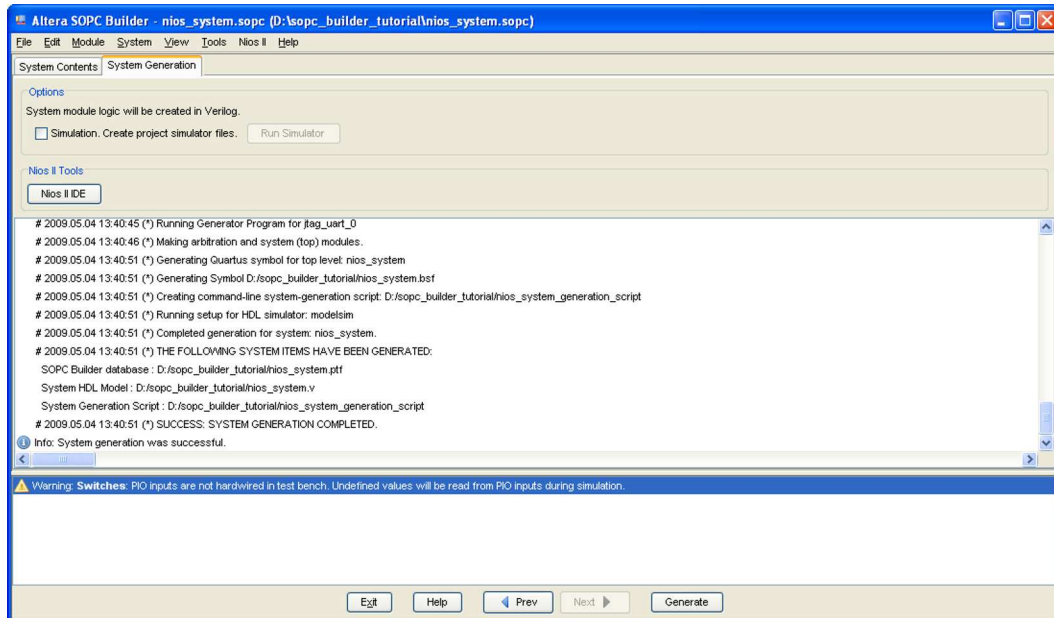

Figure 16. Generation of the system.
13. Having specified all components needed to implement the desired system, it can now be generated. Select the **System Generation** tab, which leads to the window in Figure 16. Turn off **Simulation - Create simulator project files**, because in this tutorial we will not deal with the simulation of hardware. Click **Generate** on the bottom of the SOPC Builder window. The generation process produces the messages